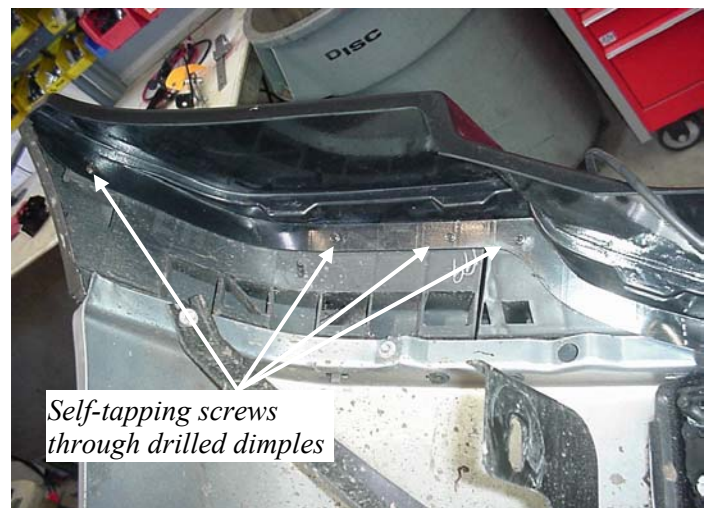

Figure 13 LH Skirt screw locations
13. Drill a 3/16" hole through each of the four(4) dimples formed into the skirt mounting flanges. **Figure 13.**